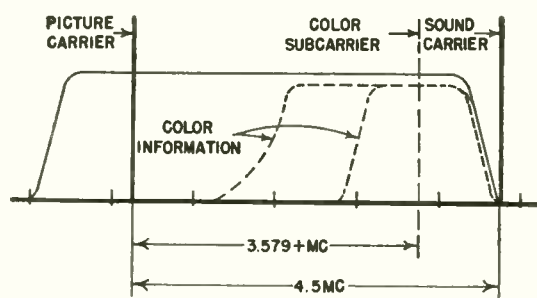
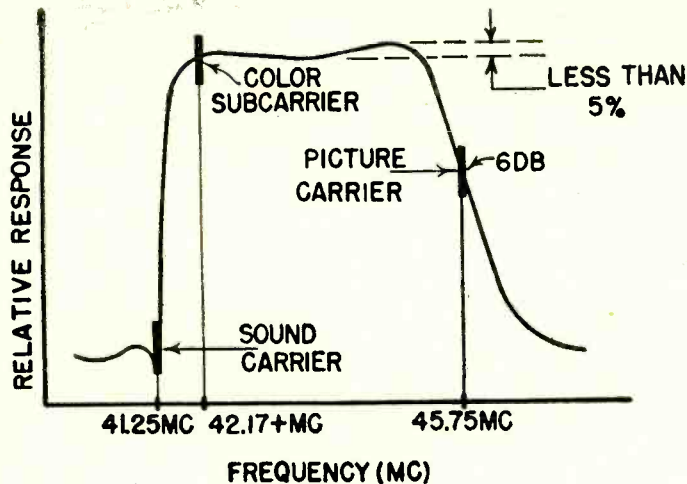

Fig. 1—The complete color signal. Dotted lines indicate the additions made to the black-and-white signal.
Fig. 3—Color i.f. response curve.
The difference between a monochrome and color signal arriving at the antenna can best be explained by referring to Fig. 1. The two drawings were selected because they clearly illustrate, by dotted lines, the additional information which is added to the present monochrome signal (the area in solid lines) to comprise a complete color signal. The area denoted by dotted lines and labeled color information is actually two signals which are amplitude-modulated and out of phase with each other by 90°.
ferred to as the in-phase or "I" signal and the second as the out-of-phase quadrature or "Q" signal. When the I signal is at zero (A) the Q signal is at maximum (A') and when the I signal is at maximum (B) the Q signal is at zero (B'). Together with the monochrome or luminance signal, three color signals (red, blue, and green) are obtained by special circuitry in the receiver. For simplicity, however, keep in mind that while the area within the dotted lines is the color or chrominance signal whose carrier is 3.58 mc (exactly 3.579545 mc) above the picture carrier, this added information is only additional amplitude-modulation on the picture carrier. The horizontal blanking pedestal shown in Fig. 1 shows the position of the color burst in dotted lines. The color burst is nothing more than a synchronizing signal provided to control the phase and frequency of the color-subcarrier reference oscillator in the receiver. It can be considered as an additional sync pulse similar to the horizontal sync pulse but whose frequency (3.58 mc) and phase is accurately controlled at the transmitter.
Since the color subcarrier is located 3.58 mc above the picture carrier (see Fig. 1) slight design revisions are necessary in the monochrome tuner, i.f. amplifier, and method of sound take-off, used in a color receiver. These revisions, though slight, should be carefully studied by the service technician. The overall tolerances in a monochrome receiver for response-curve tilt and valley-to-peak flatness, considering the antenna, tuner, and i.f. amplifier, is a voltage ratio of approximately 2 to 1 (6 db). For a color receiver much closer tolerances are required. The i.f. response curve in Fig. 3 shows that no more than 5% tolerance on tilt between peaks and between peaks and valley is permissible. This is indicated in specifications of a major TV manufacturer. Due to the frequency conversion in the first detector or mixer (tuner) which produces the i.f., the position of the carriers are inverted and the color subcarrier is then 3.58 mc below the picture i.f. carrier. Since the color burst
Tuning a color receiver will require a little more skill and patience on the part of both the receiver owner and the service technician. The fine-tuning control on snap type tuners, which was seldom used for monochrome reception, will require careful manipulation when receiving color. This can be seen by referring to Fig. 3. If the receiver is tuned so that the picture carrier is below the 6-db point of the i.f. response curve, the sound carrier will ride up on the curve and a 920-kc beat pattern will result, due to the heterodyning action in the second detector between the sound carrier and the color subcarrier. If tuned so that the picture carrier is above the 6-db point, the color subcarrier will ride over or down on the curve and result in a partial or complete loss of color information. It will be the responsibility of the service technician to properly instruct the color TV owner that a compromise is necessary, and to adjust the tuning control for the best color effect obtainable with sufficient sound and a minimum of 920-kc beat in the picture.